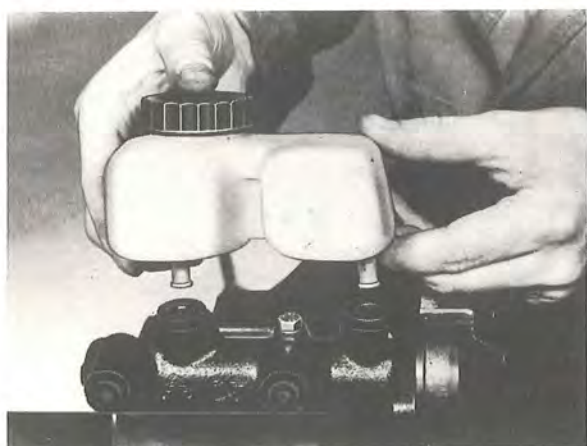
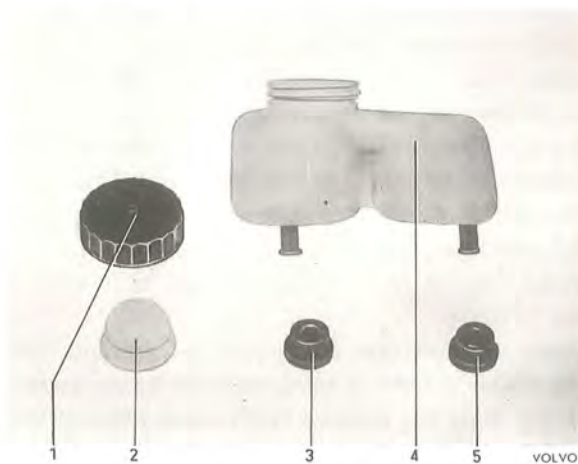
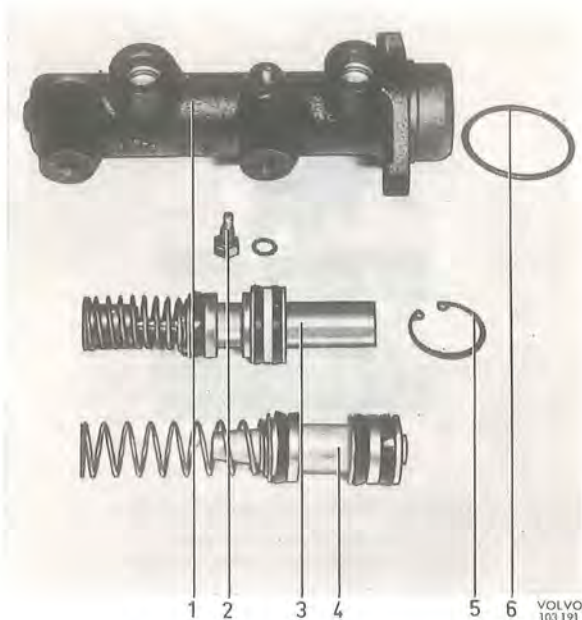
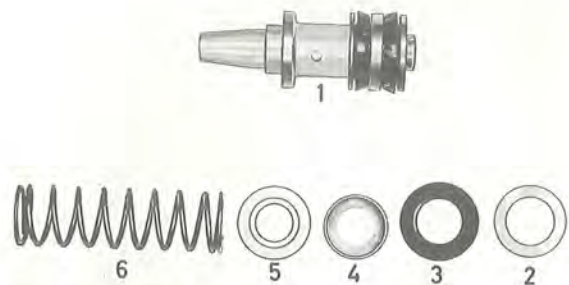

Fig. 5-45. Removing the container
Fig. 5-46. Container parts
Fig. 5-48. Master cylinder dismantled
Fig. 5-49. Secondary piston
1. Fix the flange of the master cylinder firmly in a vice, see Fig. 5-45.
2. Place both hands under the container and pull it up from the rubber seals. Remove the filler cap and strainer from the container and also the rubber seals from the cylinder, see Fig. 5-46.
If wear on the cylinder or secondary piston is suspected, the diameter should be measured with a micrometer or indicator. The cylinder bore must not exceed 23.92 mm (.942") and the diameter of the piston may not be less than 23.66 mm (.931"). Each time reconditioning is carried out, replace the primary piston (3, Fig. 5-48) and the secondary piston (4 Fig. 5-48) complete as well as the stop screw (2) with washer and circlip (5), also the sealing ring (6). Moreover, the rubber seals (Fig. 5-45) for the container should be replaced.
1. Fit the secondary piston, see Fig. 5-49, the brass washer (2) and the piston seal (3). Check to make sure that the seal is turned correctly, see Fig. 5-48.
2. Coat brake fluid on the cylinder and dip the piston and seals in brake fluid before fitting. Fit the washer (4, Fig. 5-49), the thrust washer (5) and the spring (6) on the secondary piston (1) and fit the piston as shown in Fig. 5-50. Be careful when inserting the seals in the cylinder.
3. Fit the washer (2), the piston seal (3), the plastic washer (4), the piston seal (5), and the washer (6) on the primary piston, see Fig. 5-51. Check that the seals are facing correctly, see Fig. 5-48.
4. Dip the piston and the seals in brake fluid and fit the piston in the cylinder, see Fig. 5-52. Press in the piston and fit the circlip (5, Fig. 5-48).
5. Check that the hole for the stop screw is clear and fit the screw (2, Fig. 5-48) with a new sealing washer. The tightening torque is .5—.8 kgm (3.6—5.7 lb.ft.).
7. Fit the rubber seals (3 and 5, Fig. 5-46). Fit the brake fluid container, see Fig. 5-45. Fill the container with brake fluid and vent the cylinder. Place plastic plugs in the cylinder. Check to make sure that the venting hole in the cap (1) is open and fit the strainer (2) and cap in position.
1. Place the sealing ring (6, Fig. 5-49) on the master cylinder. Fit the cylinder in position and then the